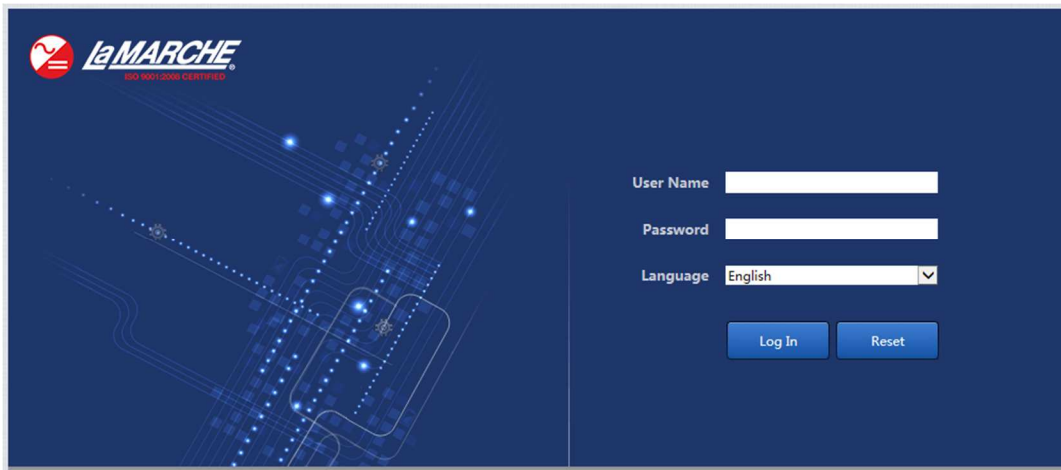

Figure 32 – Login Page
Step 5 Enter "https://", followed by the DCSC IP address in the address box on the laptop. Log in to the Web UI on the login page shown in Figure 32